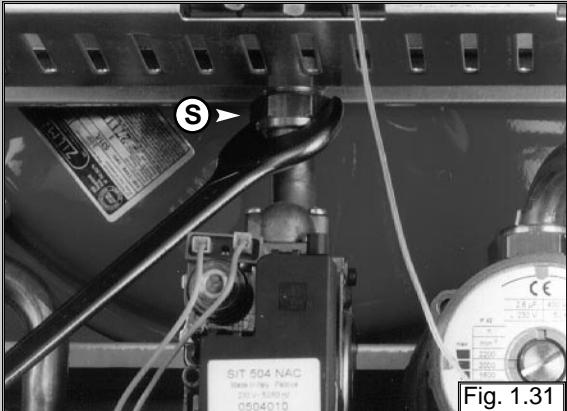

Fig. 1.31
3. Release the top nut "S" using a 30 mm open ended spanner (see fig. 1.31);